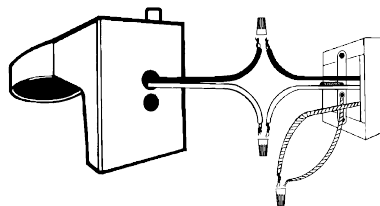

Fig. 1
- Step 1:** Connect the black fixture wire to the black supply wire (hot). Secure with a wire connector (E) (Fig. 1).
- Step 2:** Connect the white fixture wire to the white supply wire (neutral). Secure with a wire connector (E) (Fig. 1).
- Step 3:** Connect the green ground fixture wire to an appropriate supply ground or a grounded junction box (E) (Fig. 1).